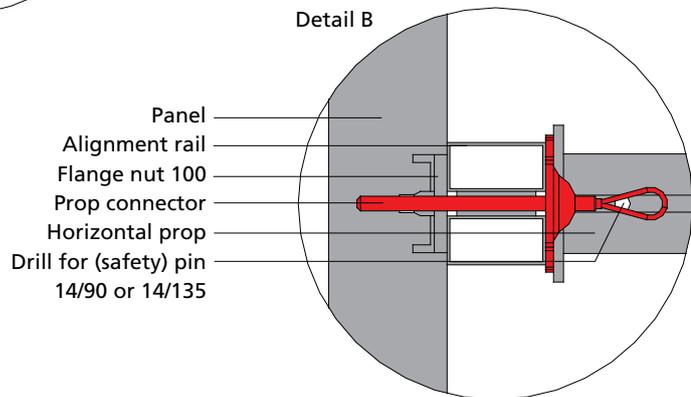

Fig. 16.4
- Or the prop connector is attached with an alignment rail and a fixed flange nut 100 (Fig. 16.4).